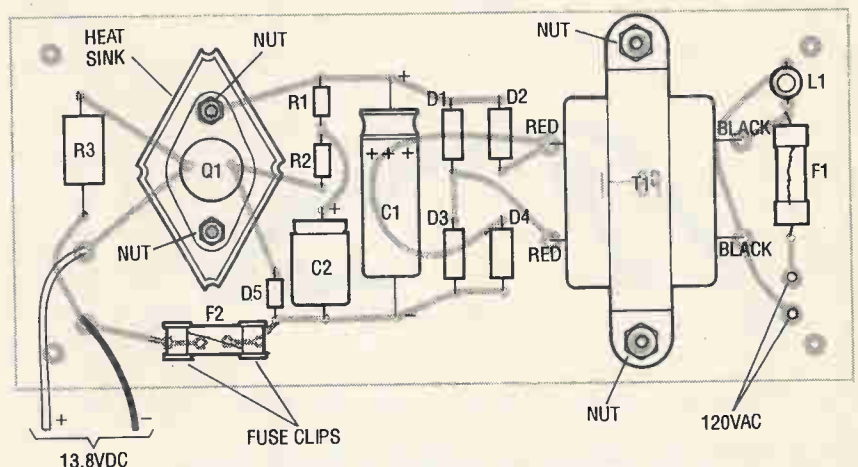

Figure 2. The parts-placement diagram. Be sure to orient all components exactly as shown.
1. Carefully follow the parts-placement diagram (Figure 2), the Parts List, and the schematic as you assemble your Regulated Power Supply. Make sure to use only 60/40 rosin-core